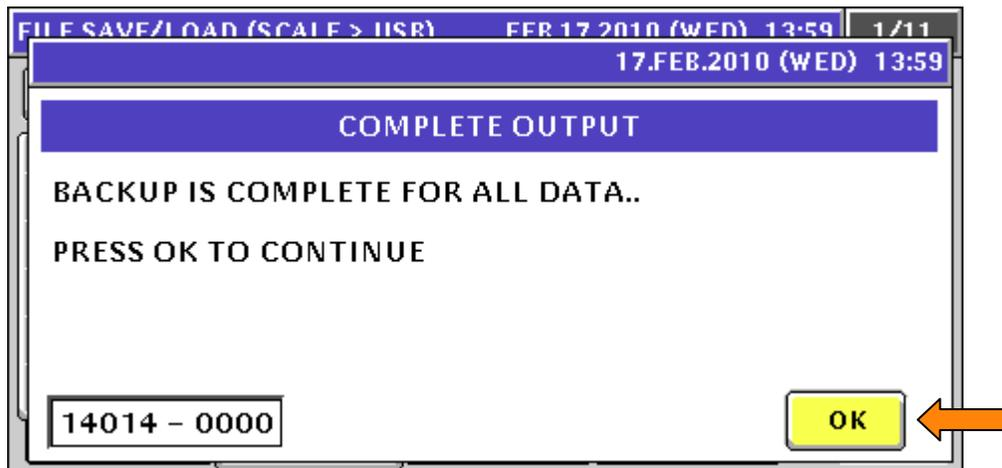

Figure 6.4. Output to USB Memory Stick Complete Confirmation
16. Press **OK** when backup is complete (message 14014-0000). See Figure 6.4.